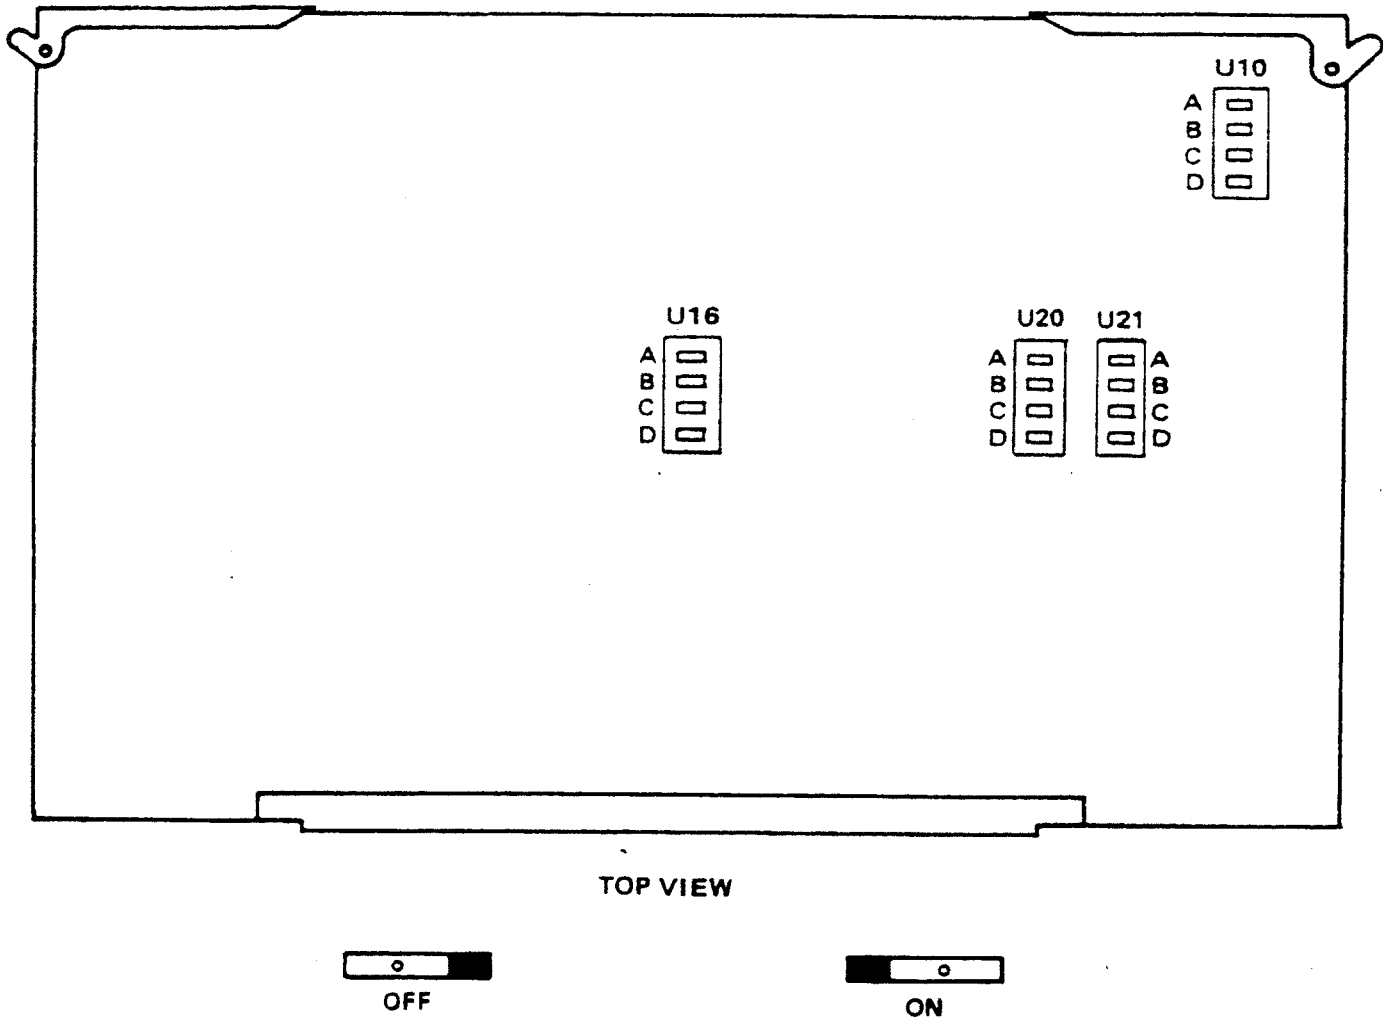

Figure 8-3. System Configuration Switch Locations
- d. Remove logic module A1A7 (para 6-4.2). Refer to table 8-2 and figure 8-3, to set the four switches for the proper system configuration. Replace logic module A1A7.